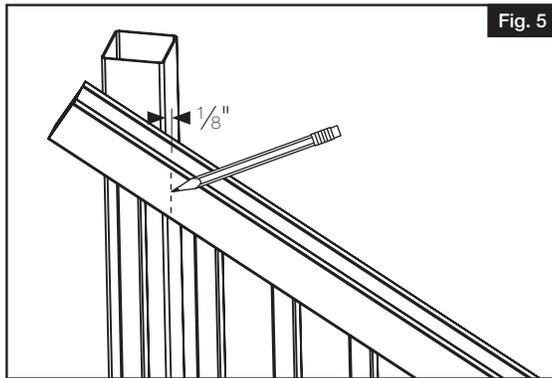

Fig. 5
- b. Trace the post onto each rail (both ends of top and bottom rails). Make four marks in total being sure to mark  $\frac{1}{8}$ " shorter to allow for expansion (Fig. 5).